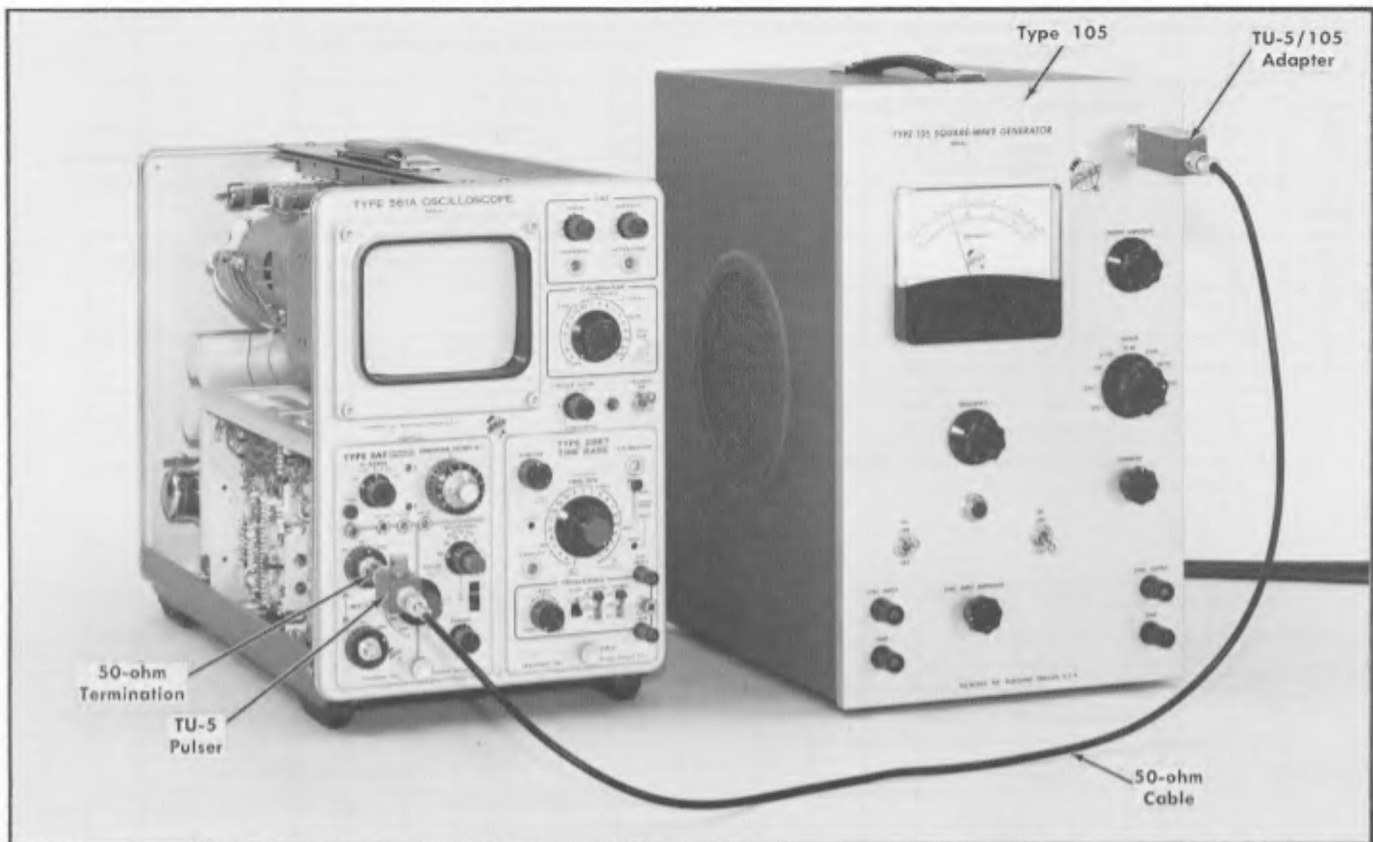

Fig. 5-43. Setup at completion of step 35c.
c. Starting at the Type 105 Output connector, connect the following items in this order: TU-5/105 Adapter, 50-ohm coaxial cable, TU-5 Pulser and 50-ohm termination to the Type 3A7 input A connector. Fig. 5-43 shows the setup for this step.